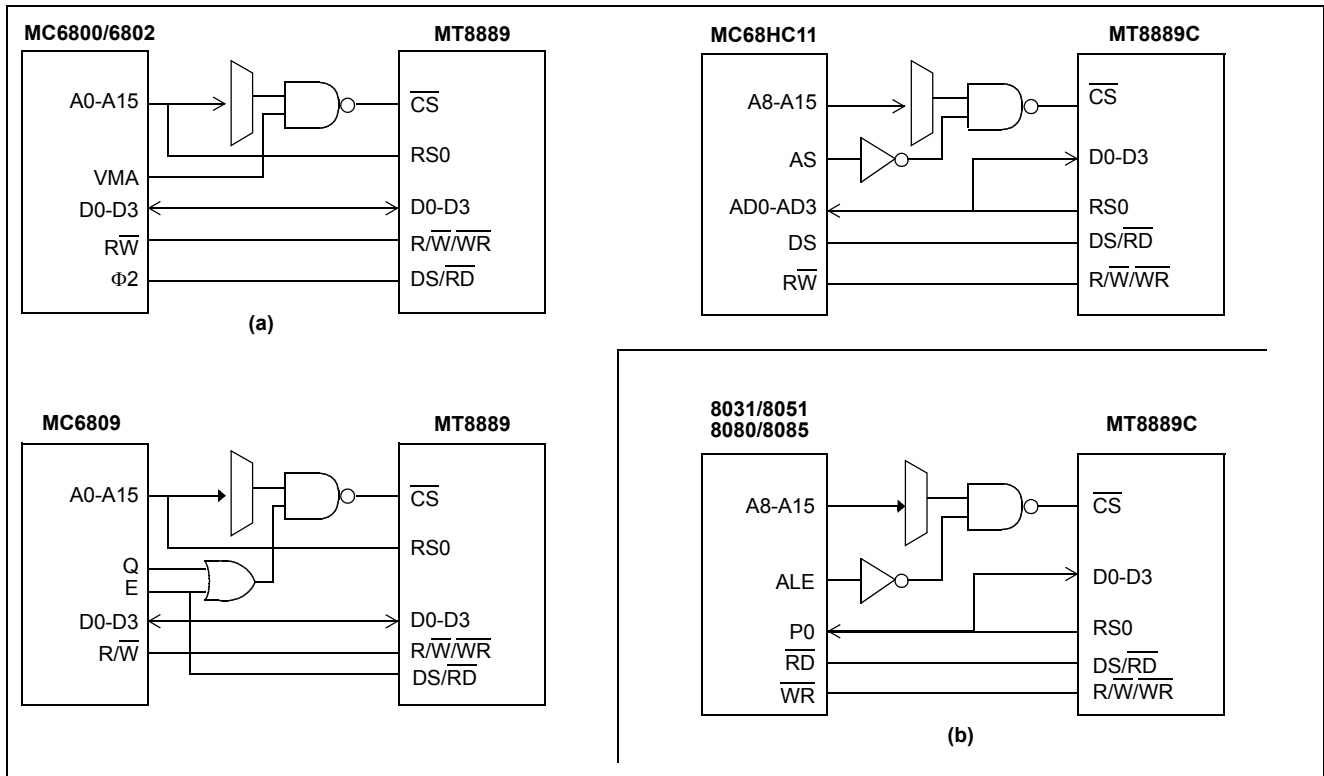

Figure 14 - a) & b) - MT8889 Interface Connections for Various Intel and Motorola Micros
Figure 20 shows the timing diagram for the Motorola MC68HC11 (1 MHz) microcontroller. The chip select (\overline{CS}) input is formed by NANDing address strobe (AS) and address decode output. Again, the MT8889C examines the state of DS on the falling edge of \overline{CS} to determine if the micro has a Motorola bus (when DS is low). Additionally, the Texas Instruments TMS370CX5X is qualified to have a Motorola interface. Figure 14(a) summarizes connection of these Motorola processors to the MT8889C DTMF transceiver.
Figures 21 and 22 are the timing diagrams for the Intel 8031/8051 (12 MHz) and 8085 (5 MHz) micro-controllers with multiplexed address and data buses. The MT8889C latches in the state of \overline{RD} on the falling edge of \overline{CS} . When \overline{RD} is high, Intel processor operation is selected. By NANDing the address latch enable (ALE) output with the high-byte address (P2) decode output, \overline{CS} can be generated. Figure 14(b) summarizes the connection of these Intel processors to the MT8889C transceiver.